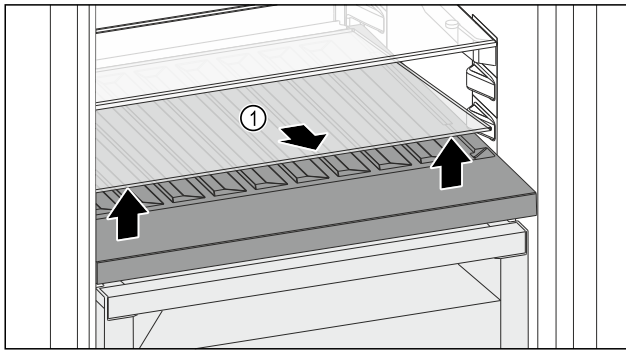

Fig. 214
- ▶ Lift the glass shelf Fig. 214 (1) at the front and remove.
- ▶ Store the glass shelf Fig. 214 (1) in a safe place outside the appliance.
- ▶ Insert the glass shelf (2) under the variable bottle rack.